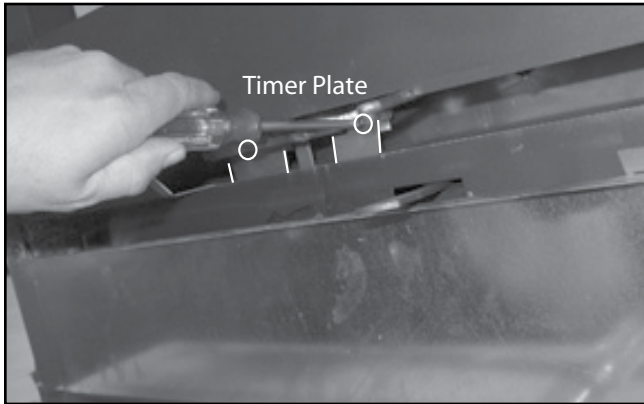

Figure 37.1
6. Remove 2 screws from timer mounting plate. Figure 37.1.